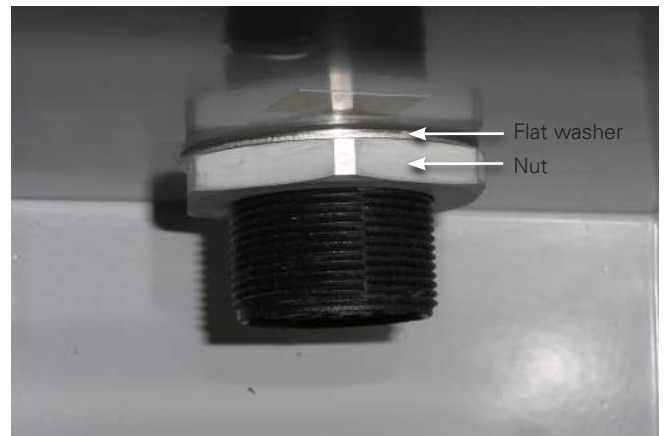

Figure 4. Securing control cable to box.
3. Inside the control box, place the flat washer and nut onto the threads as shown in Figure 4. Tighten the nut snugly using a 1-3/4" open-end wrench while holding the cable receptacle on the outside of the box.